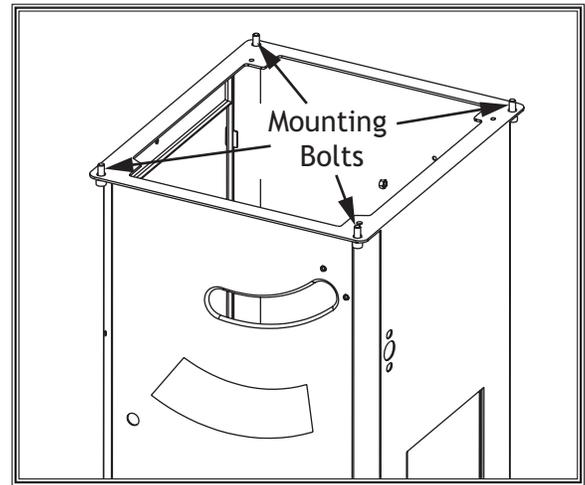

Figure 108. Location of table mounting bolts (table omitted for clarity).
6. Loosen (4) table mounting bolts securing table top to base (see **Figure 108**), and lightly tap table in direction needed to square table to blade.